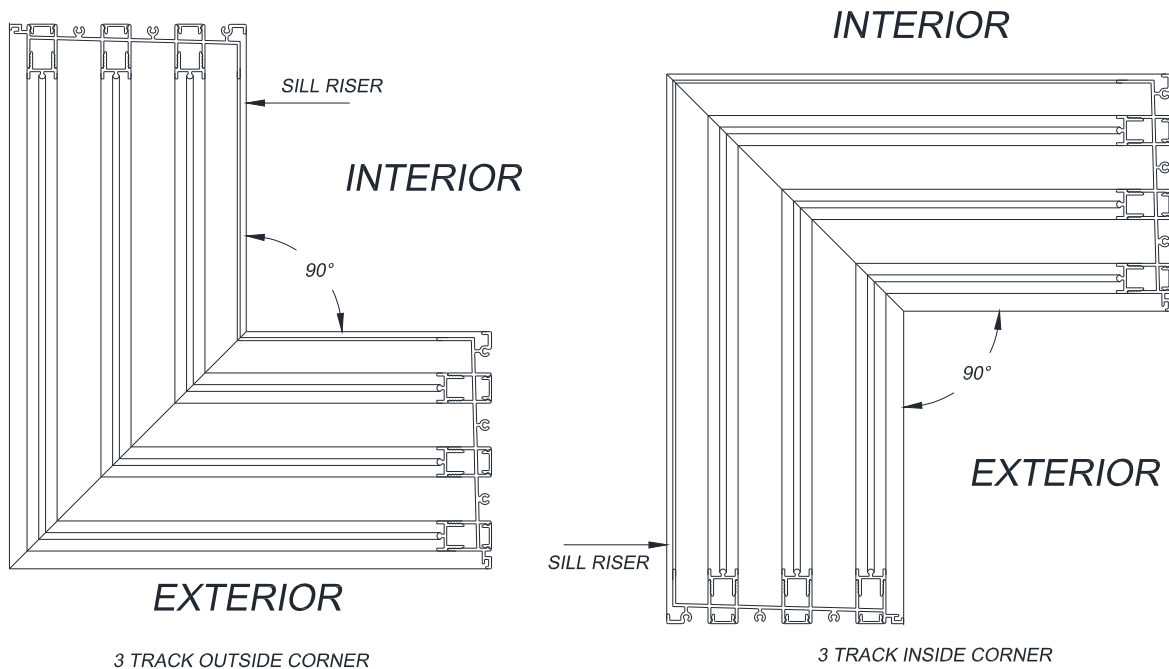

Figure 32
1. Determine whether the unit is an outside or inside corner using the sill riser as a guide and verify that the frame is facing the correct exterior direction. The sill riser will always remain facing the interior of the opening (Figure 32).